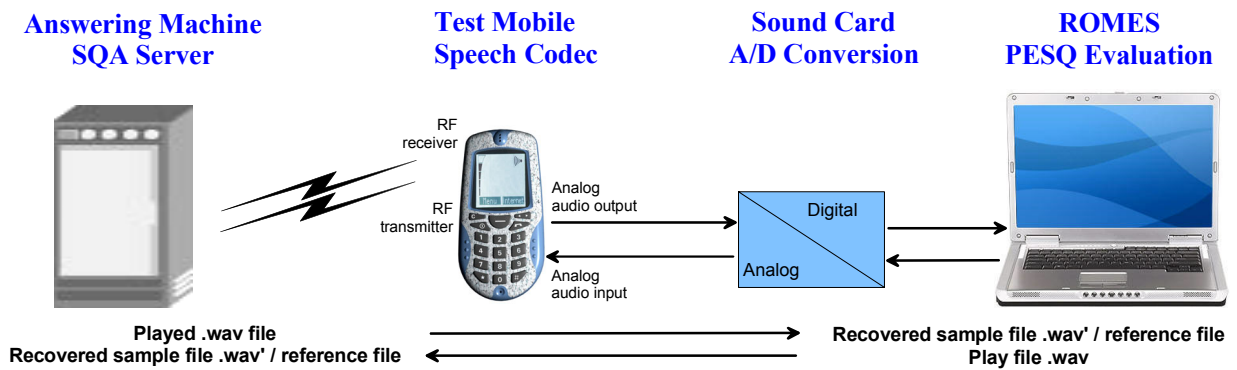

Fig. 6-33 Basic SQA Test Setup
1. Establish the basic test setup according to Fig. 6-33 on p. 6.65, ensuring that the answering machine/SQA server and the local PC contain copies of the same *.wav file.